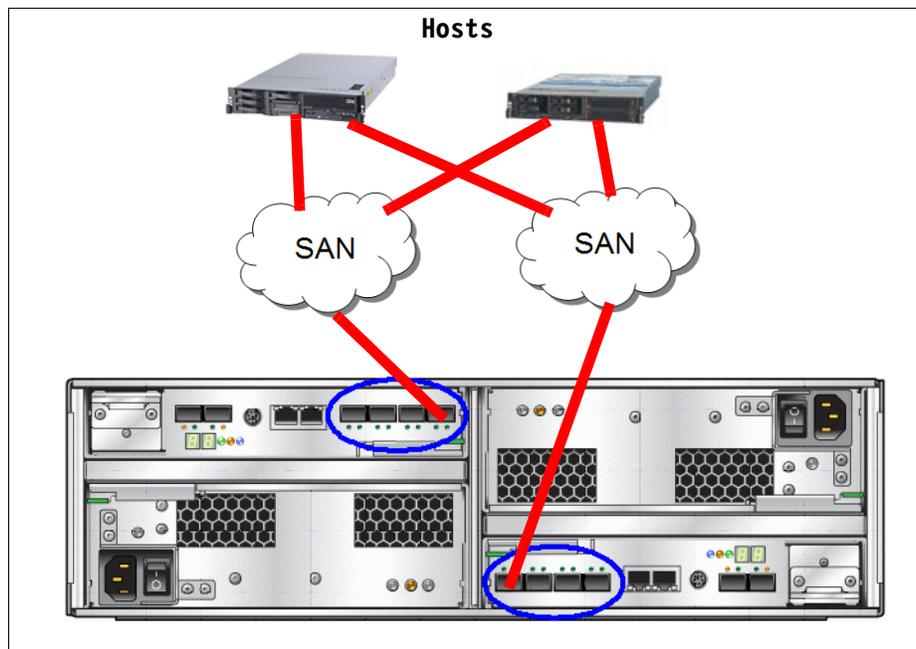

Figure 3-28 SAN connected hosts to DS4700 (Model 72)
The DS4700 also fully supports Fibre Channel switched connections. Figure 3-28 depicts how the DS4700 would be connected to dual-redundant fabrics. Note how the same host port (1) is used on each controller to connect to the fabrics.